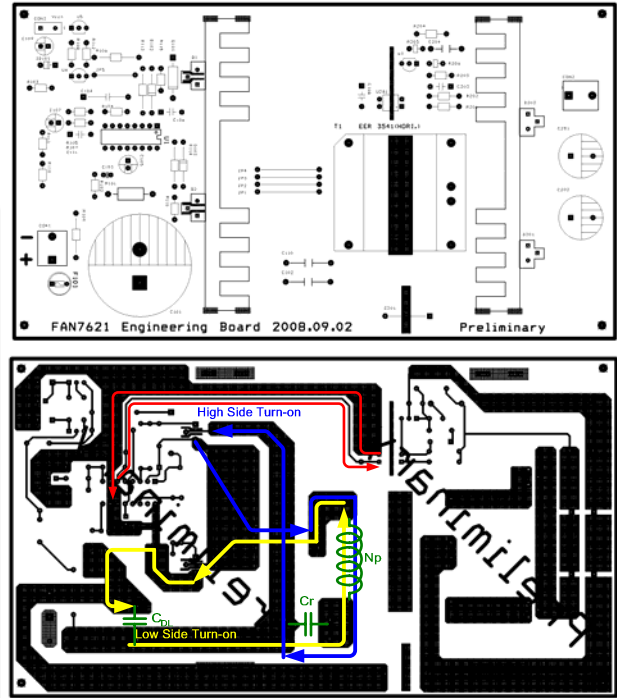

Figure 28. Example for Duty Balancing
6. PCB Layout Guideline: Duty imbalance problems may occur due to the radiated noise from main transformer, the inequality of the secondary-side leakage inductances of main transformer, and so on. Among them, it is one of the dominant reasons that the control components in the vicinity of R_T pin are enclosed by the primary current flow pattern on PCB layout. The direction of the magnetic field on the components caused by the primary current flow is changed when the high-and-low side MOSFET turns on by turns. The magnetic fields with opposite direction from each other induce a current through, into, or out of the R_T pin, which makes the turn-on duration of each MOSFET different. It is strongly recommended to separate the control components in the vicinity of R_T pin from the primary current flow pattern on PCB layout. Figure 28 shows an example for the duty-balanced case. The yellow and blue lines show the primary current flows when the lower-side and higher-side MOSFETs turns on, respectively. The primary current does not enclose any component of controller.
In addition, it is helpful to reduce the duty imbalance to make the loop configured between CON pin and optocoupler as small as possible, as shown in the red line in Figure 28.